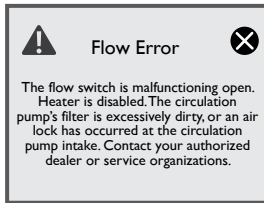
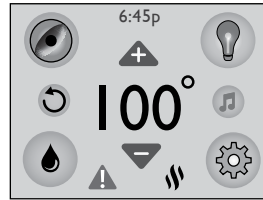

Figure 15.0a
Figure 15.0b
There are a number of unique functions designed into your Jacuzzi spa to protect it from damage and/or to aid in troubleshooting. When this occurs the spa will notify you by showing the screen below, Figure 15.0a. A solid white light indicates that all operations are normal. A solid red light indicates that immediate attention is required to clear or fix an error code. Following is a listing of all the possible messages along with their meanings. **Always insist on genuine Jacuzzi replacement parts.**
**Note:** If you tap  the display will change to Figure 15.0b. The error icon  will remain on the screen as a reminder. If the error is not taken care of or fixed, the error display will reappear in 2 hours, Figure 15.0a.